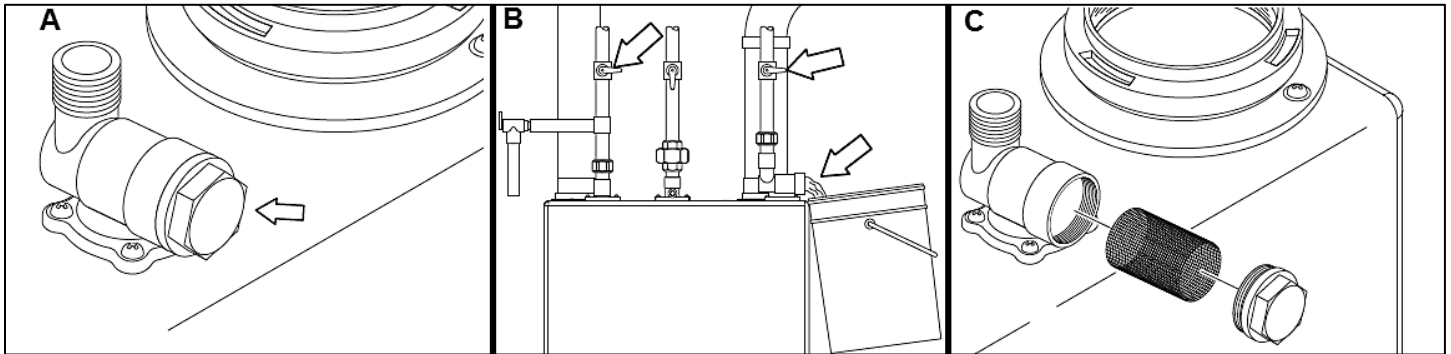

Figure 34 – Inlet Water Strainer Cleaning Detail
2. Locate the inlet water strainer. See Figure 34-A.
3. Position a container under the strainer on the water inlet piping. See Figure 34-B.
4. Close the water inlet and outlet valves (arrows) and remove the strainer cover plug. Allow the water to drain from the pipe into the container. See Figure 34-B.
5. Remove the strainer screen, clean it, and reinstall it in the housing. See Figure 34-C.